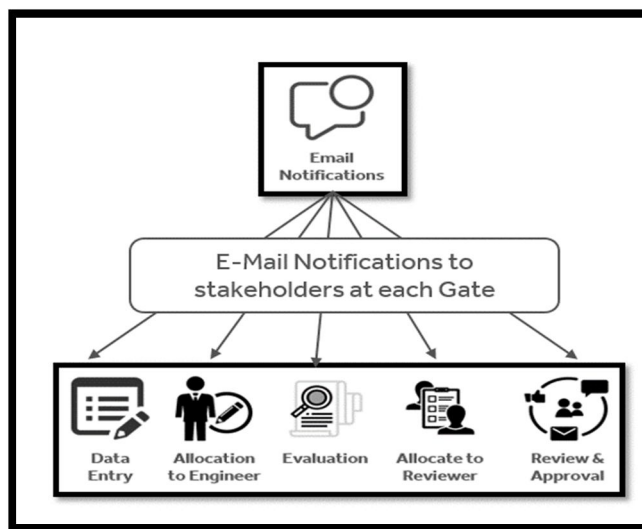

Figure 6: Sample E-mail Notifications
3) Automatic E-mail Notification makes a good amount of difference in productivity as it brings up seamless communication for every process step between stakeholders. Whenever there is a change in any workflow, feedback from stakeholders, delay in deliveries, and reprioritization of Non-conformance from the customer all the necessary stakeholders get E-mail notifications seamlessly as shown in Figure 6. This is simple but of great importance, as it foolproofs all the possible process lapse by a simple E-mail alert unlike in manual processes. These alerts work even the stakeholder is not logged in the portal or occupied with other priority tasks. All such mapping of stakeholder alerts is done in Admin gate in the background which can be edited on a need basis like any change in designation, movement of associate to other teams, or even resignation from the company.